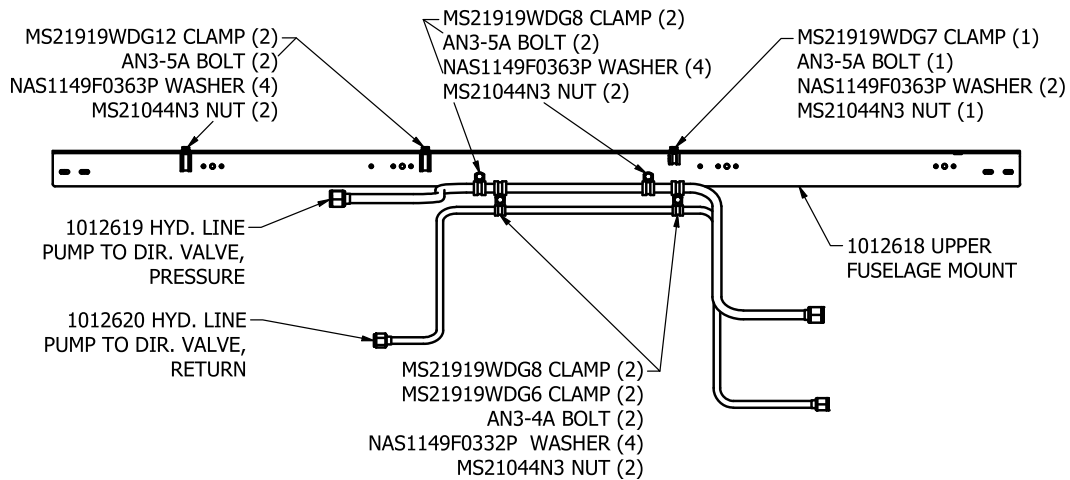

FIGURE 6
b. Before installing the fuselage upper mount (1012618), attach the hydraulic lines, and clamps as shown in Figure 6. Do not tighten hardware at this point.